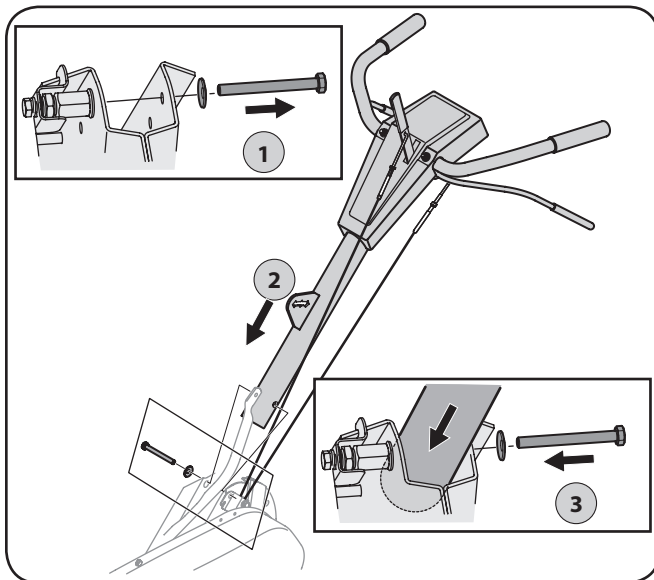

Figure 3-3
- Remove the hex bolt and cupped washer from the right side of the frame. Hold the cable guide bracket on the left side of frame as it will fall when the bolt is removed. Step 1 in Figure 3-3.
- Insert the handle into tiller frame as shown. Step 2 in Figure 3-3.
- Insert the bolt through the cupped washer, frame, handle and into the cable guide bracket (note the notch in the cable guide bracket goes over the flange on the frame.) Step 3 in Figure 3-3.